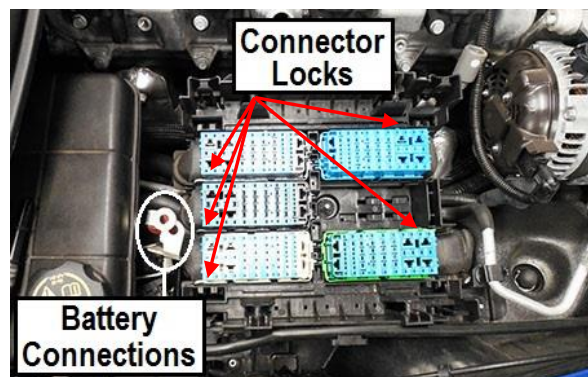

Figure 2
- C) Unlock the connectors from the tray by pushing the lock tab out and sliding the connector away from the center of the tray. Remove the (x3) 10mm nuts securing the connector tray to the fender well (**Figure 2**).
- D) Disconnect the 13mm nut securing the battery connections from the left side of the connector tray. Remove the connector tray and set aside (**Figure 2**).